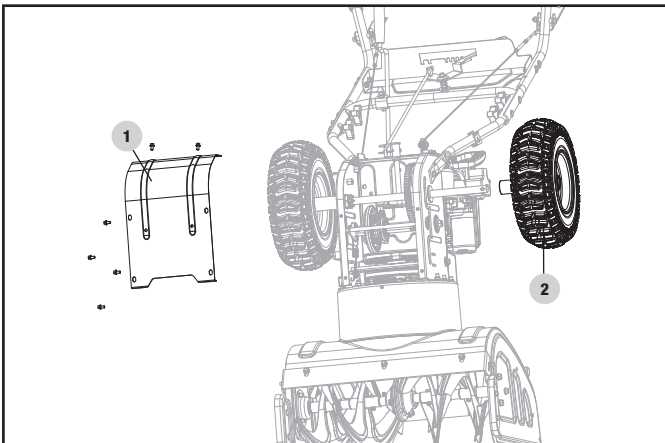

Figure 33A
2. Remove the base frame cover (1) from the underside of the snowblower by removing the six M6 × 16 screws which secure it (Fig 33A/B).